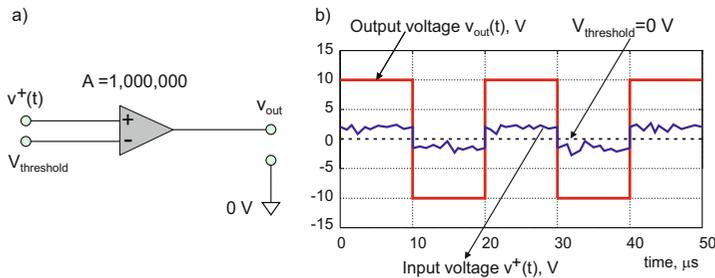

Fig. 5.3. A simple operational amplifier as a voltage comparator.
A *comparator* is a circuit or a device that compares *two* input voltages and outputs a *digital voltage* (e.g.,  $\pm 10$  V) as an indication of which input voltage is larger. Due to a very high gain, the operational amplifier in the open-loop configuration shown in Fig. 5.3a may operate as a basic comparator. Figure 5.3b shows one possible application of the comparator: a *digital repeater*. We assume that  $v^- = V_{\text{threshold}} = 0$ . The *input voltage to the comparator*  $v^+(t)$  is a weak noisy digital signal shown in Fig. 5.3b. This signal is compared to a threshold level of zero volts (the threshold voltage in Fig. 5.3).
**Exercise 5.1:** In Fig. 5.3, the threshold voltage of the comparator amplifier is changed to +5 V. What will be the output of the comparator circuit?